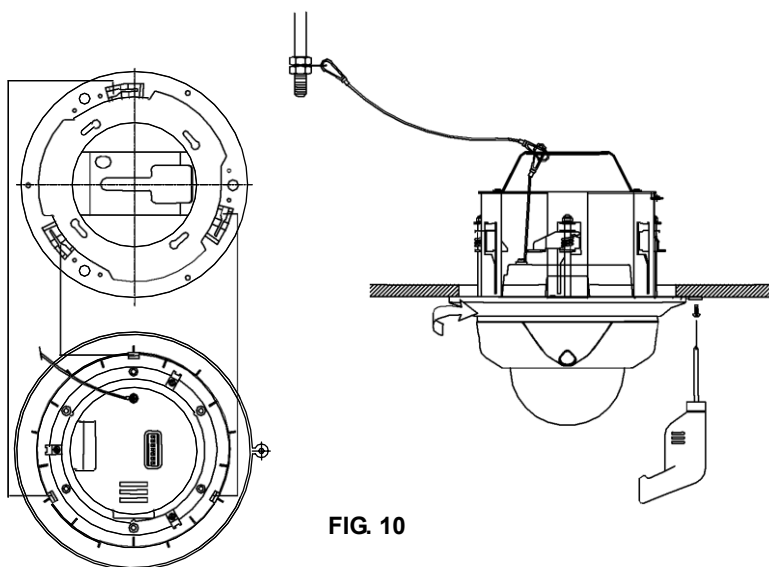

FIG. 10
5. Install the camera by inserting cover lock and twisting it clockwise. (FIG. 10)
6. Fix the decoration cover by screw (Ø4.0x16) (FIG. 10)